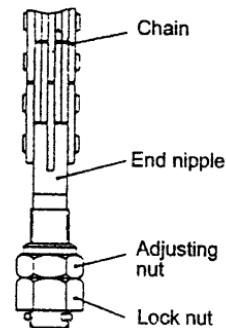

Fig.8.8
- (4) Put down the fork and tilt to specified position, adjust the nut at chain upside and tensility of two chains should be same. See Fig8.8.